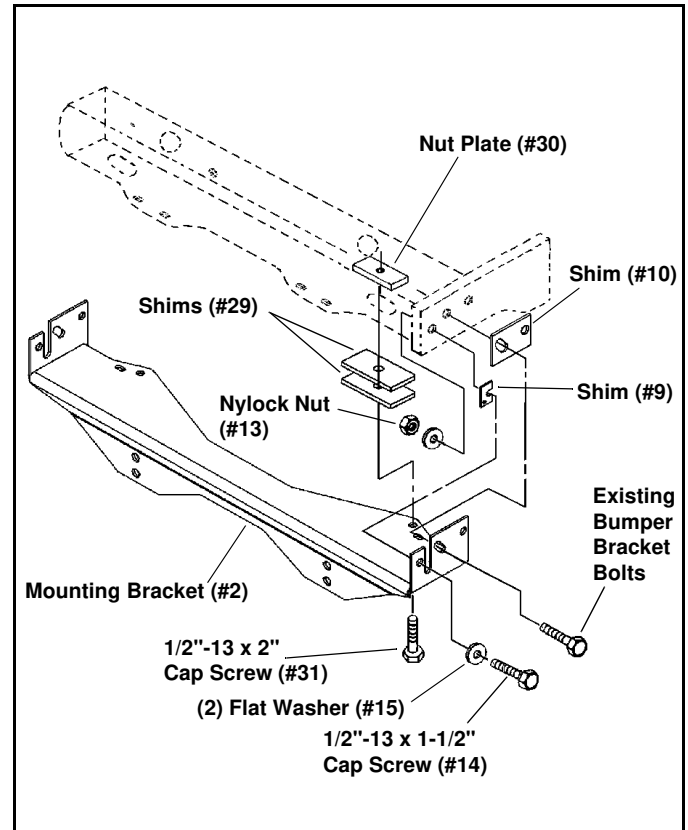

Figure 2
- 4A. Using the large holes in the rear of the vehicle crossmember, insert (2) Nut Plates (#30), and align with large slots on bottom side of vehicle crossmember. To close gap between Mounting Bracket (#2) and vehicle crossmember, install Shims (#29) between the Mounting Bracket and vehicle crossmember, with an equal number of Shims (#29) on both sides. Secure Mounting Bracket, Shims, and Nut Plates to vehicle front crossmember with (2) 1/2" x 2" Cap Screws (#31) (See Figure 2).
- 4B. Attach Mounting Bracket (#2) and bumper support brackets, previously removed, with (1) 1/2" x 1-1/2" Cap Screws (#14), (2) Flat Washers (#15), and (1) Nylock Nuts (#13) provided. Flat Washers are used on both the bolt and nut side. Use previously removed bumper bracket bolts in the remaining holes in each bumper support bracket.